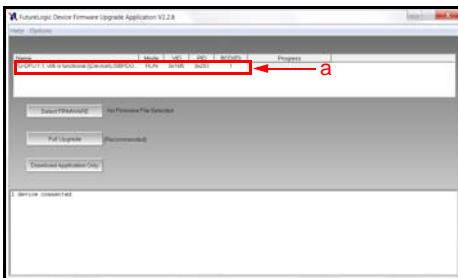

Figure 5 "Printer Detected" Indicator
- To verify communication between the GEN2U Printer and the Device Firmware Upgrade Application, look for the Printer Detected indicator (Figure 5 a) in the window.